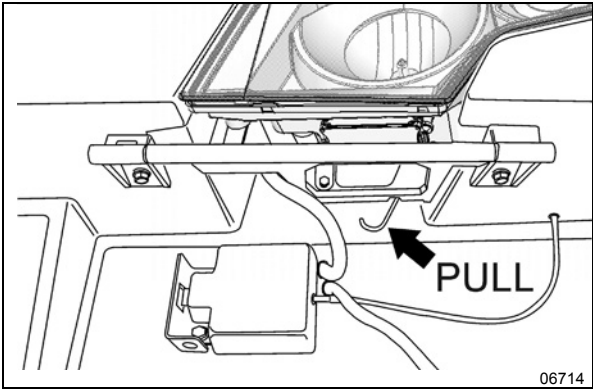

FIGURE 77: ROCKING THE HEADLAMPS ASSEMBLY
3. Pull on the rod shown on **FIGURE 77** to pivot the headlamps assembly.